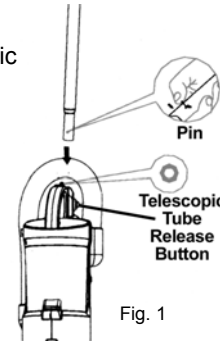

Fig. 1
- Insert the telescopic tube into the hole next to the dust cup handle. Make sure that the slot in the handle fits correctly into the opening. (Fig. 1)
- Press the telescopic tube release button to remove the telescopic tube. (See Fig. 1 page 4)